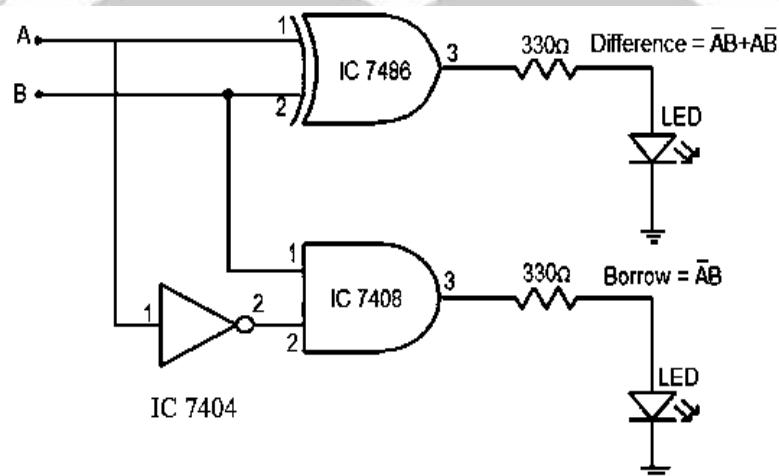

Fig 7.3:Half subtractor Circuit Diagram
3. Make the connection as per figure 7.3.